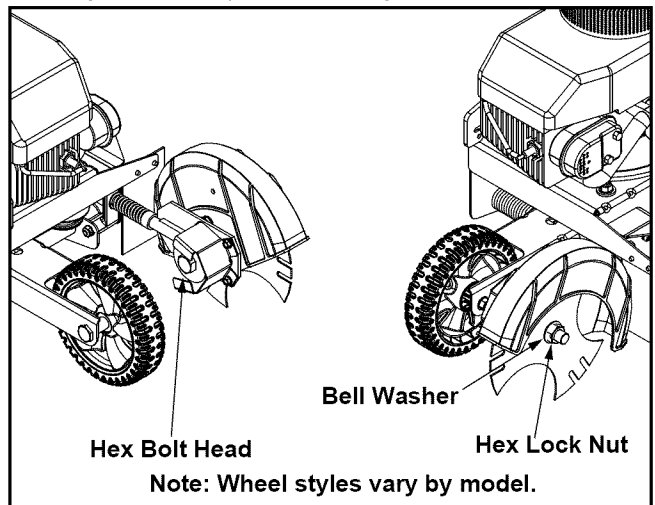

Figure 12
- Use two wrenches (one wrench to prevent the hex bolt head from spinning and the other to unthread the hex lock nut) to remove the hex lock nut and bell washer that secure the edger blade, leaving the edger blade in place. See Figure 12.
- Use two wrenches (one wrench to prevent the hex bolt head from spinning and the other to remove the hex lock nut and bell washer) to remove the edger blade. Refer to Figure 12.